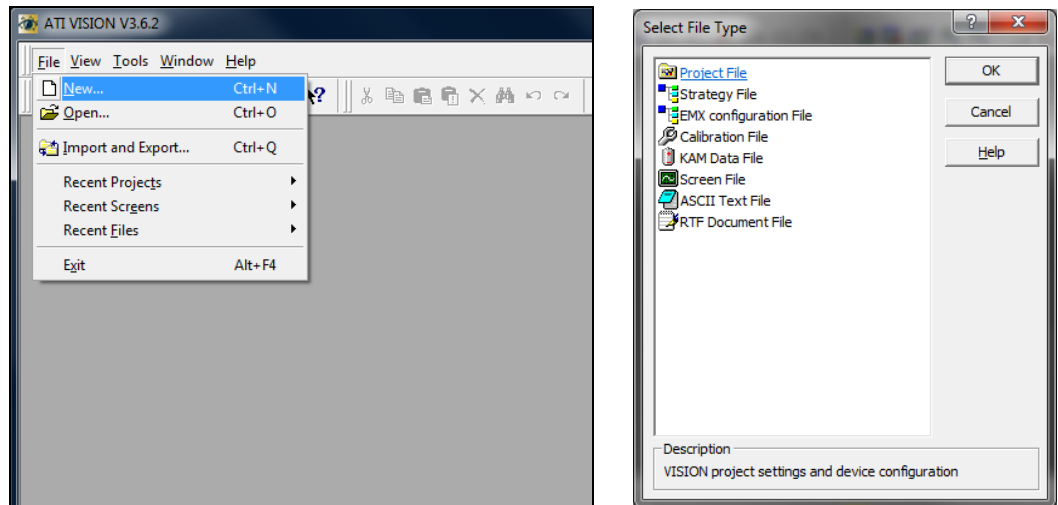

**Figure 2: ECM Configuration Tool**
3. Select CAN adapter from drop down menus as shown in Figure 2, and click START.